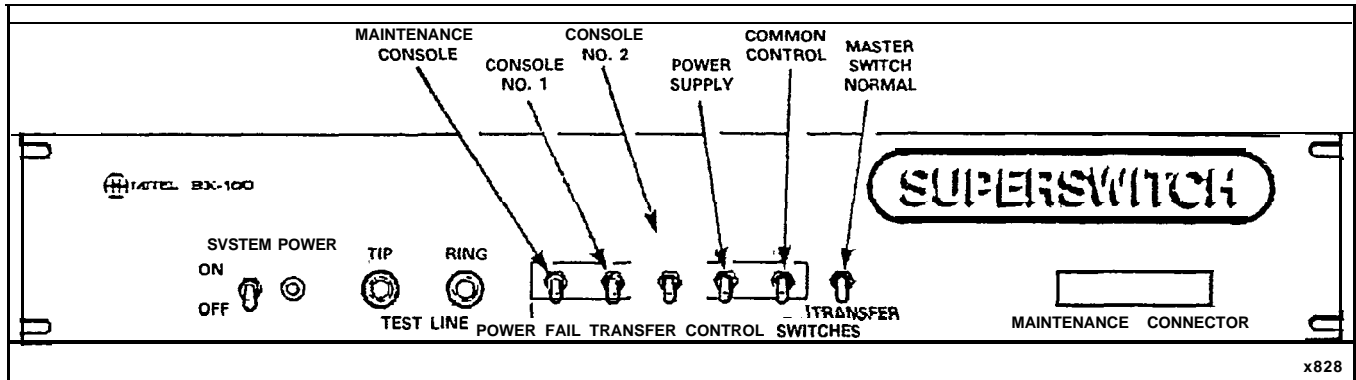
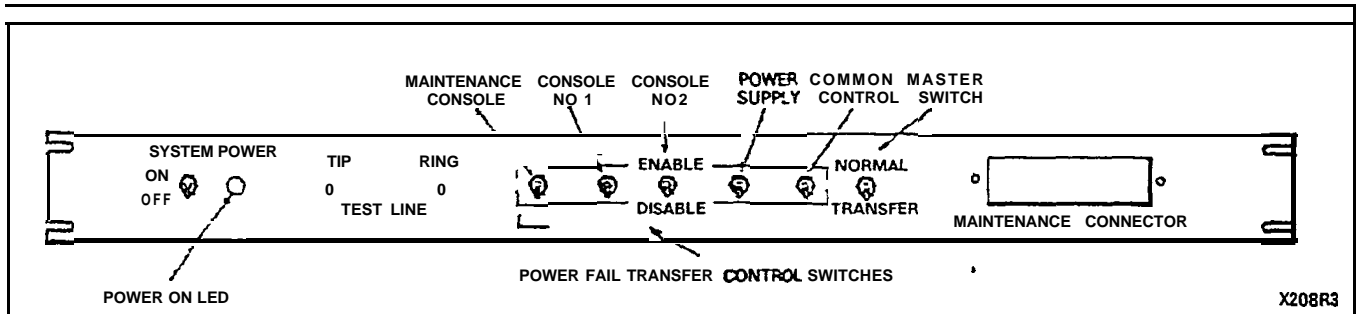

Figure 2-4 SX-100 Maintenance Panel
Figure 2-5 Maintenance Panel
2.08 The equipment cabinet holds the maintenance' panel, a maximum of two equipment shelves (see Figure 2-4), the optional reserve battery supply and the primary power supply. The maintenance
2.09 The SX-100 maintenance panel (Figure 2-4) measures 88.9 mm (3.50 in.) high, 584.2 mm (23 in.) wide, and 50.8 mm (2 in.) deep, with a total weight of .682 kg (1.5 lb). The SX-200 maintenance panel (Figure 2-5) measures 51 mm (2 in.) high, 480 mm (19 in.) wide and 51 mm (2 in.) deep, with a total weight of 0.9 kg (2.1 lb). The operation of both panels is identical. The maintenance connector on the right of the panel permits service personnel to perform maintenance tasks and enter new, or modify existing customer data using the maintenance console. The test line terminals on the panel allow the use of a standard hand test set (butt-in) to establish calls through the system using preselected circuits. The power switch controls the application of power to the equipment shelves.